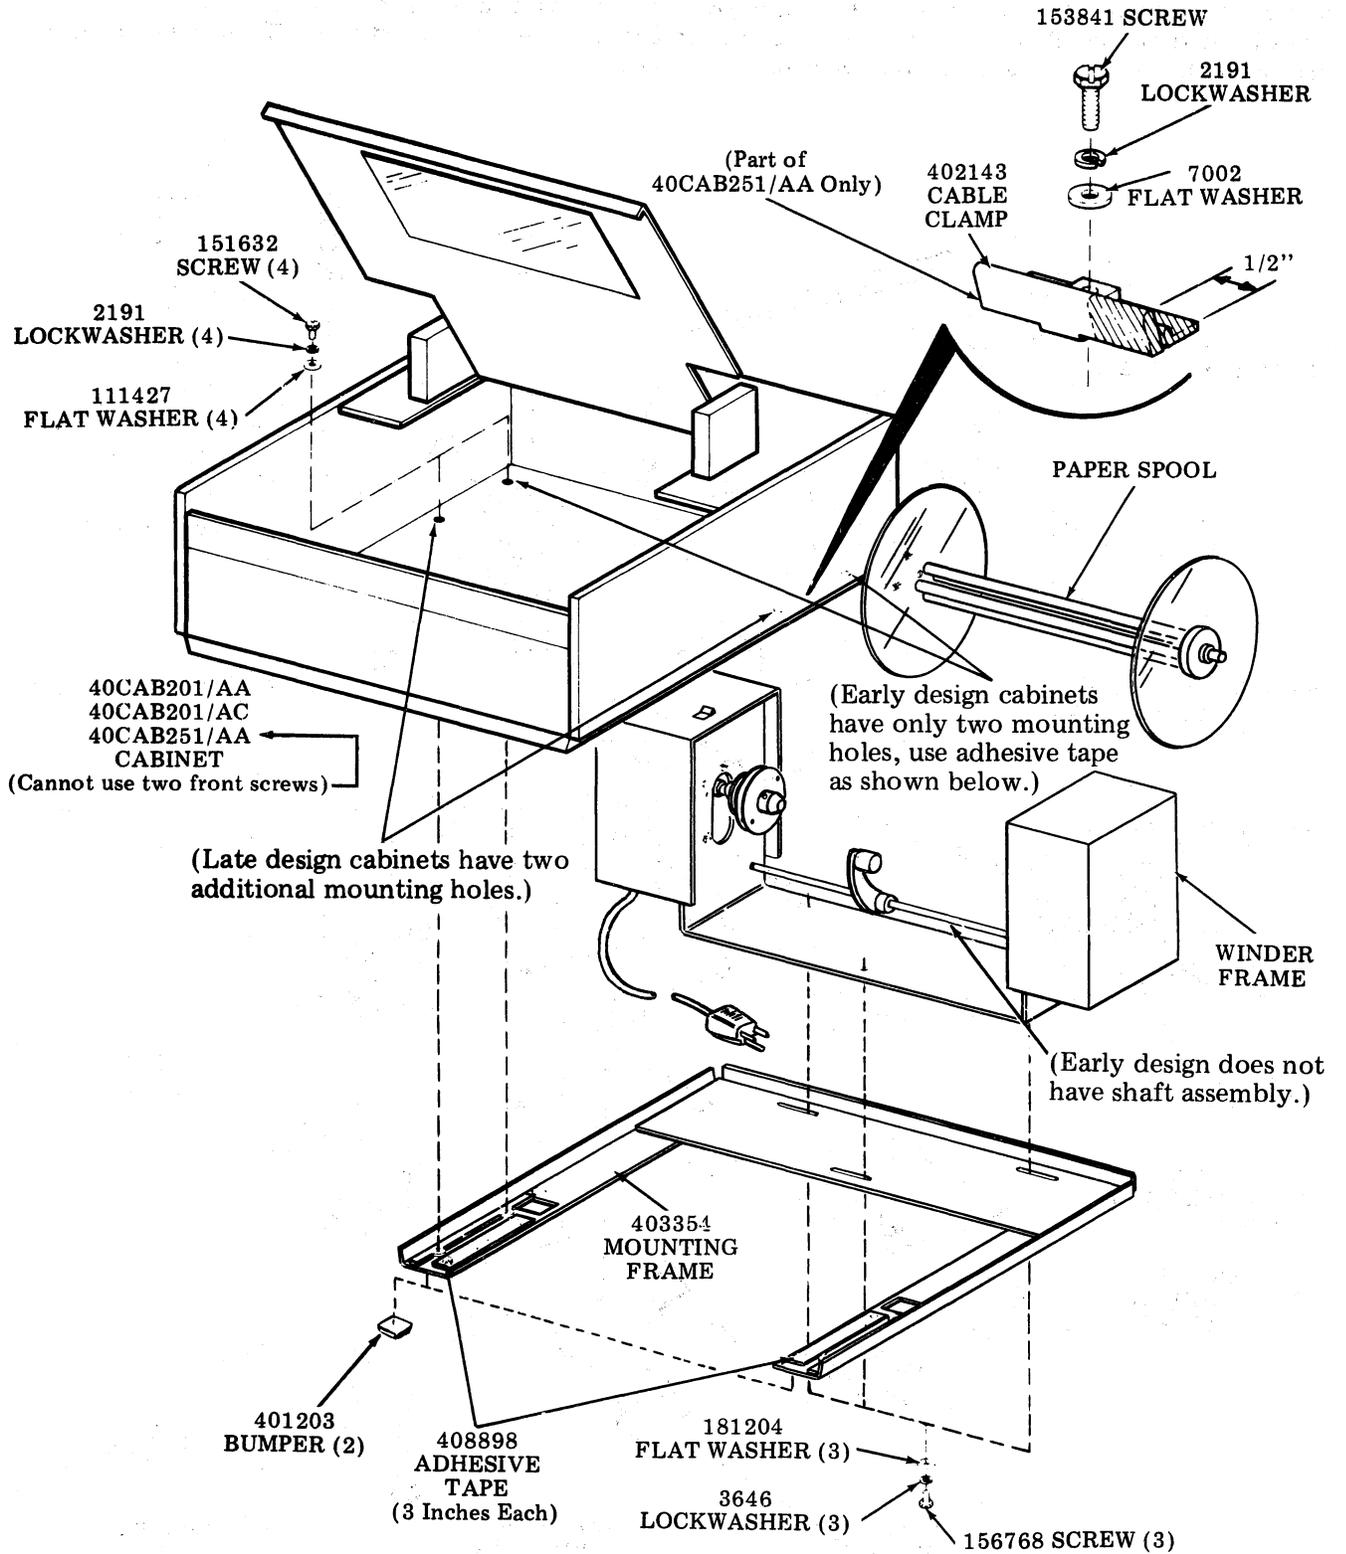
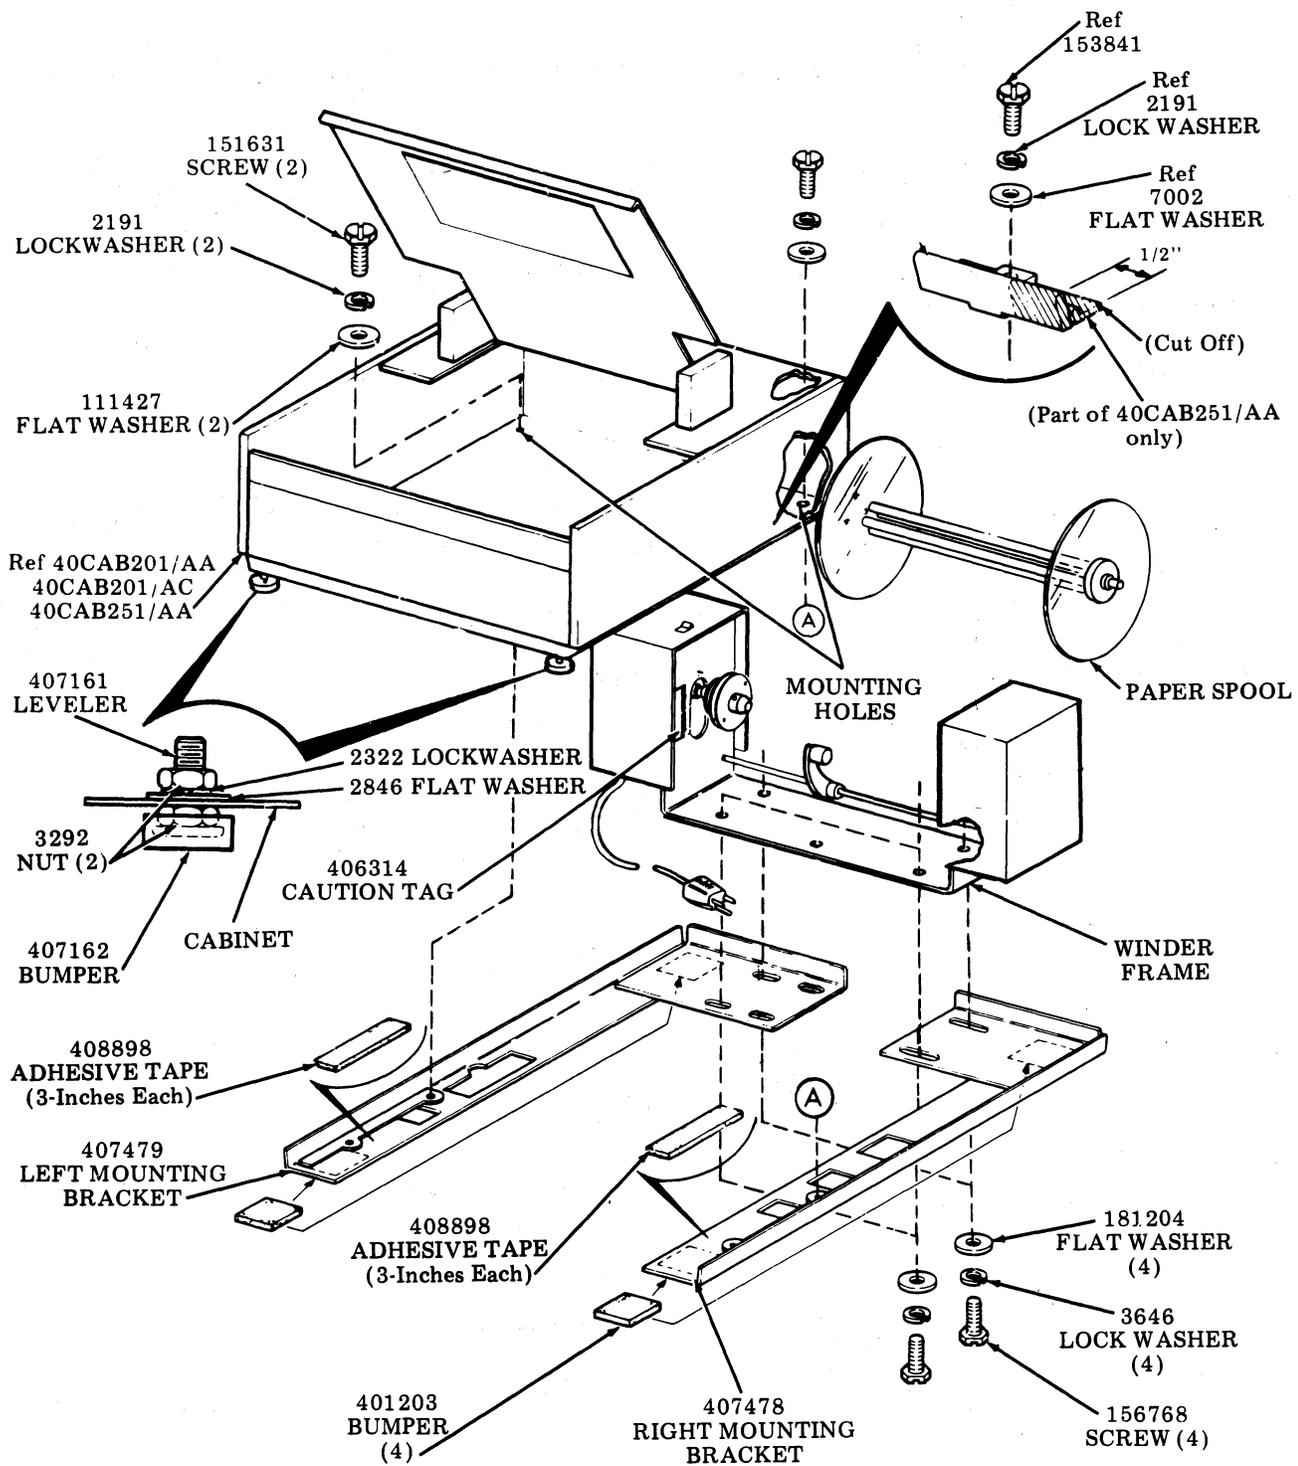

Fig. 6—40PWU101 Paper Winder Mounted Under Cabinet (17-Inch Wide)
Fig. 7 — 40PWU102 Paper Winder Mounted Under Cabinet (17-Inch Wide)
4.05 Assemble paper winder to cabinet. Use Fig. 6 for 40PWU101 and Figs. 7 and 8 for 40PWU102.